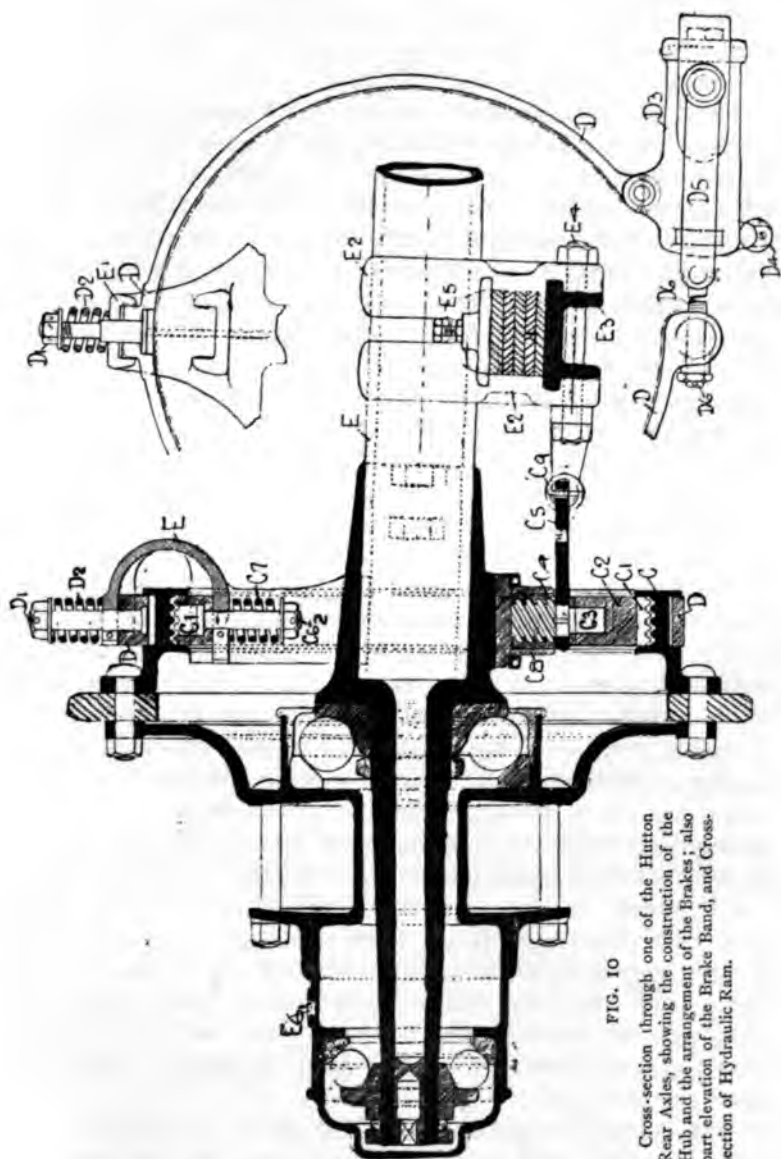

FIG. 10
Fig. 10 is a sectional elevation, through the end of the axle (E) and the hub of the driving wheel. A section is also shown through the external and internal brakes (D) and (C 1), which are coupled direct to a flange on the hub of the wheel, to which also the driving sprocket is attached; the chief feature of this hub is the large diameter of the balls adopted for the anti-friction bearings. The axle is a nickel steel tube, and the axle-end, carrying the ball races, is a nickel steel drop forging. The method of attaching the springs to the axle is shown at E 2. The keeper-plate (E 3) slides in grooves provided in the axle-strap (E 2), and transmits the whole of the stresses direct to the axle. The bolts (E 4) have only to retain this keeper in position.